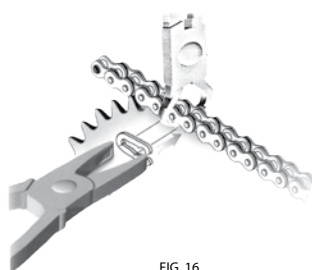

FIG. 16
7. Insert the new connecting link (A) from the back.
8. Install the connecting plate (B).
9. Install the spring clip (C) with the edges in the direction opposite to the chain rotation, using pliers (fig. 16).
10. If using a slip fit **type 26** link, with the help of special pliers (P/N 805203) strongly press together the two plates of the connecting link overcoming the elastic resistance of the O-Rings and expose the grooves on the pins (fig. 16). If using a press fit **type 42** link, use the tool P/N 805187 with the special punch P/N 805187-4-B to rightly position the external plate. If the tool is not available, strongly clamp the plates together until, the outer plate touches against the purpose-built larger diameter of the pin.
11. Install the spring clip (C) with the edges in the direction opposite to the chain rotation, using pliers (fig. 16).